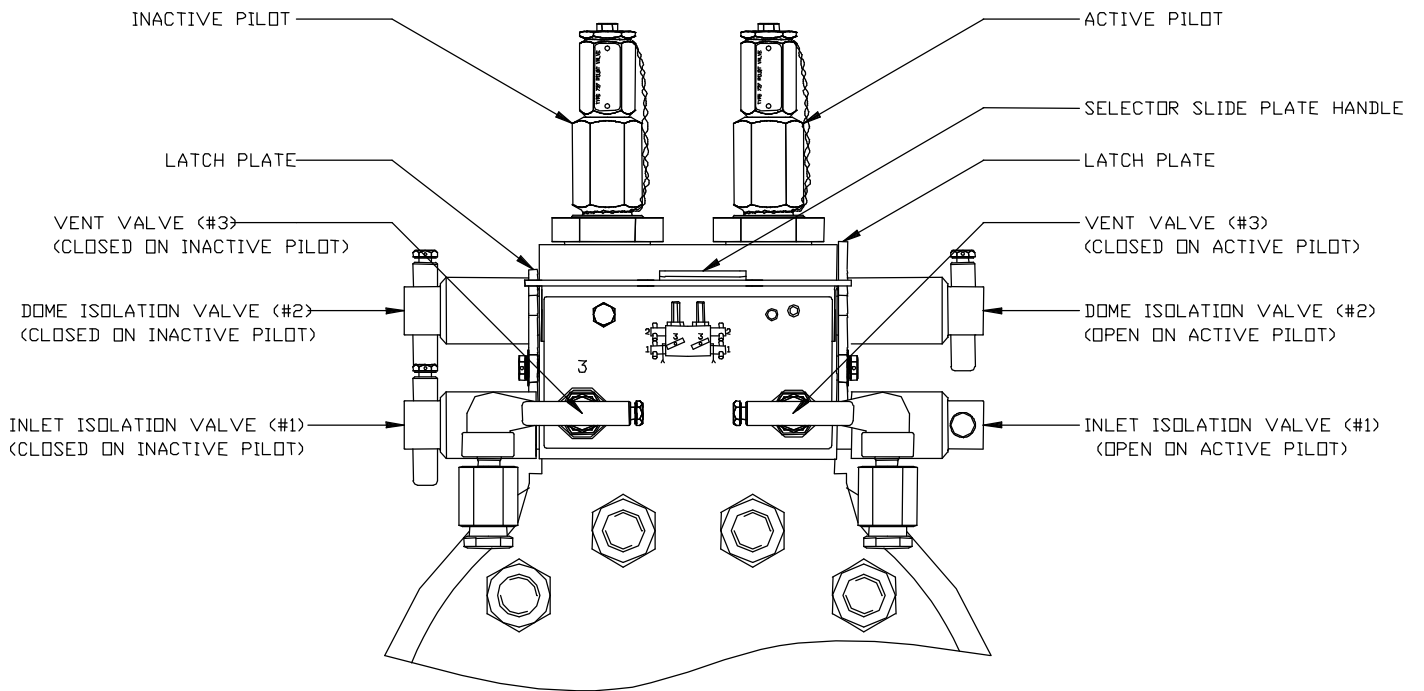

FIGURE 2
5.1 Pilot Switch-over Instructions (See Figure 2)